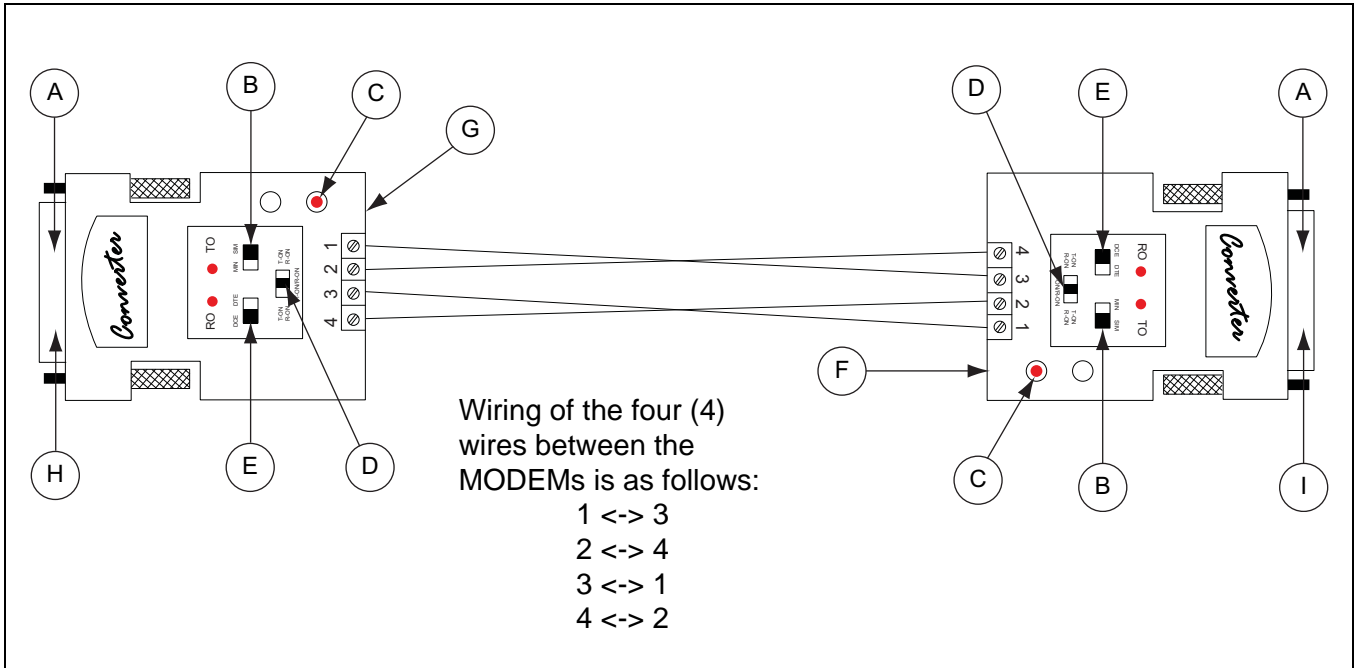

Figure 5B Short Haul MODEM wiring
This type of connection (GSI Part # VIS-WATCH-DC) uses two (2) short haul MODEMS to connect the dryer to the user's PC. The WatchDog equipment is located at the user's PC, one short haul MODEM is connected to the WatchDog equipment and the other short haul MODEM is connected to the Display I/O on Vision Dryer. Four (4) wires run between the short haul MODEMS. (*See Figure 5B on Page 16.*)
5. Connect the two (2) short haul MODEMS together using four (4) conductors. (Preferably CAT5 Ethernet cable.) (*See Figure 5B on Page 16.*) The maximum length should be less than 1/4 mile (400 meters).
6. The short haul MODEMS should arrive configured appropriately, but the setup should still be verified. Both MODEMS should be configured as shown in *Figure 5B on Page 16*.